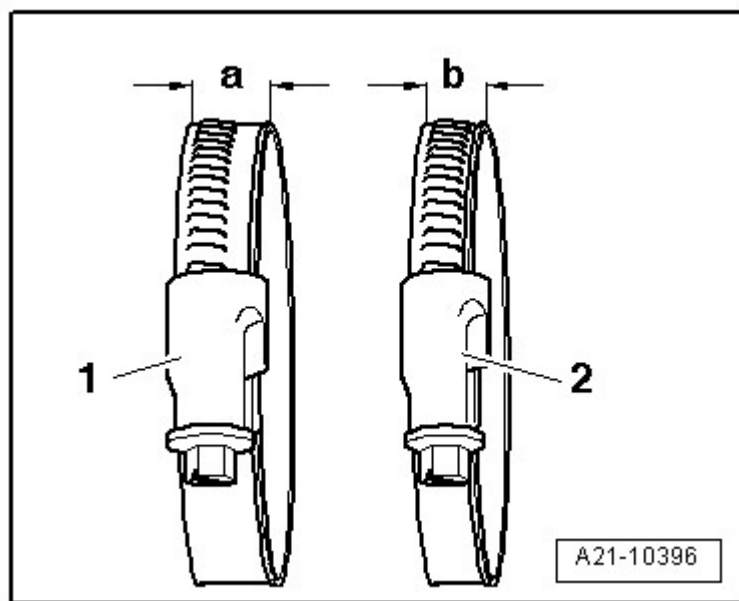

Fig. 31: Clamp Tightening Specifications
-- Install the air duct hose and screw-type clamps. Refer to Fig. 31.